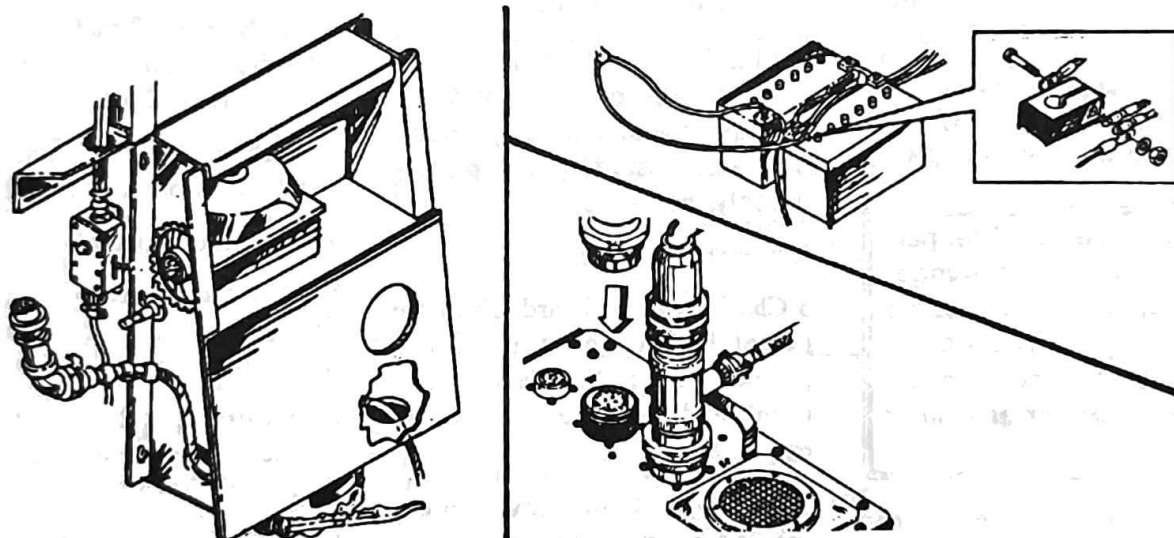

Figure 6-16. Ensuring cable routings are correct.
4. Ensure all the cable routings are correct and connected to the correct component (Figure 6-16.)